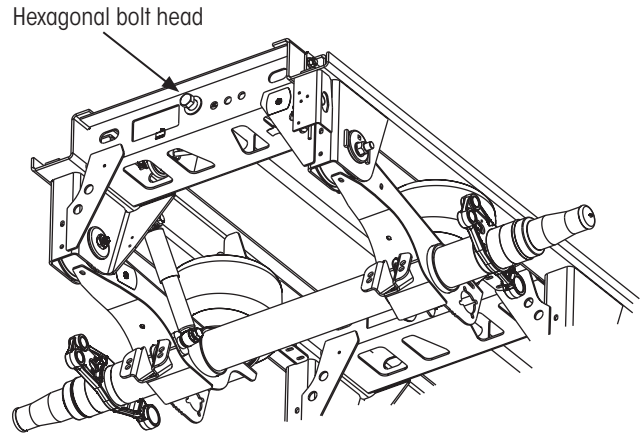

Figure 17: Hexagonal bolt head location
2. **Look** under the trailer at the front of the platform slider frame and **locate** the hexagonal bolt head on the end of the pipe weldment (Figure 17).